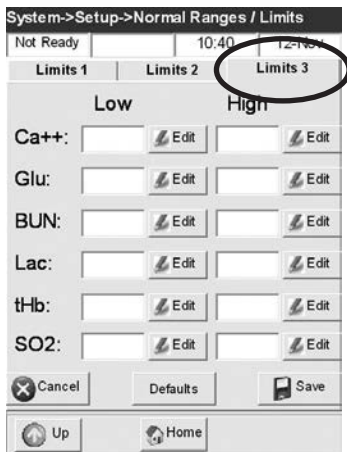

Fig. 3-24 Enter Limits 3
7. Press **<Limits 3>** to advance to the next screen (Fig. 3-24) with the remaining parameters.